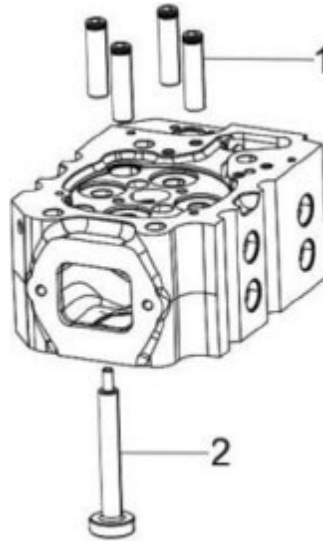

Figure 55. Cylinder Head Valve Guides
11. If the valve guides are not within specifications, use a hydraulic press to drive the valve guides (Figure 55, Item 1) out of the cylinder head.